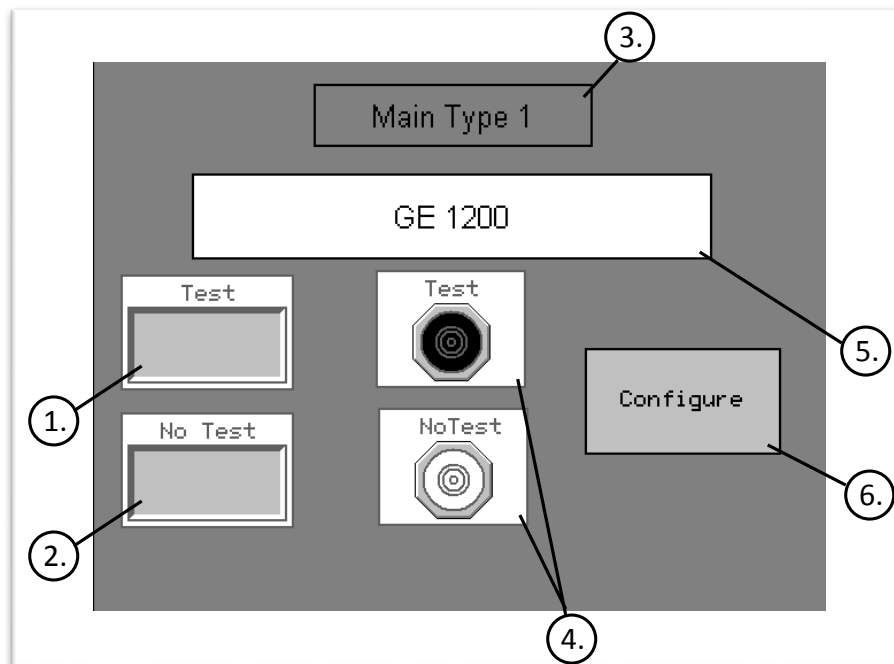

Figure 25: Breaker Test/ No Test position configurations
1. **Test** – When pressed, the Test button highlights the Test Selection Indicator (as shown in Figure 25 for example) allowing configurations in the Test position
4. **Test/No Test Selection Indicators** – The two indicators shown in Figure 25 allow the operator a quick and easy way of knowing which of the Test and No Test options are selected; In Figure 25, the Test indicator is highlighted signaling that the Test operation is selected
5. **GE 1200** – The name of the selected breaker is displayed here; in Figure 25, the selected breaker for data modifications is GE 1200
6. **Configure** – Navigates the operator to data modification options pertaining to operator's selection of Test/No Test; in Figure 25 , the operator would be modifying data related to the Test position